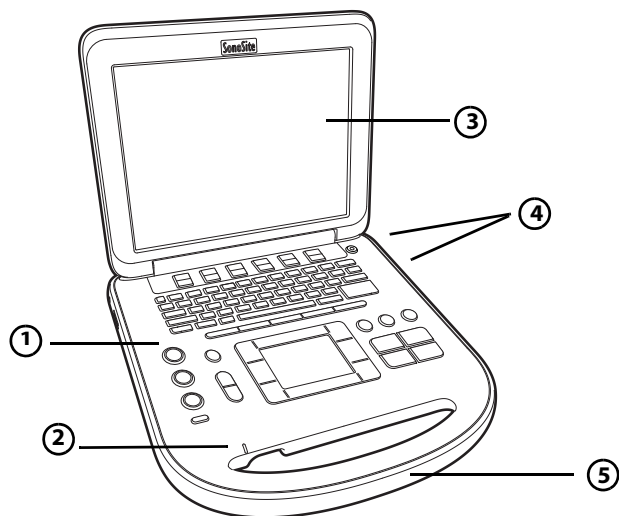

Figure 2-1 Front of the SonoSite Edge II Ultrasound System
- ❖ Insert the USB storage device into any USB port on the system or mini-dock. See Figure 2-1 on page 2-4. The USB storage device is ready when the USB icon appears.